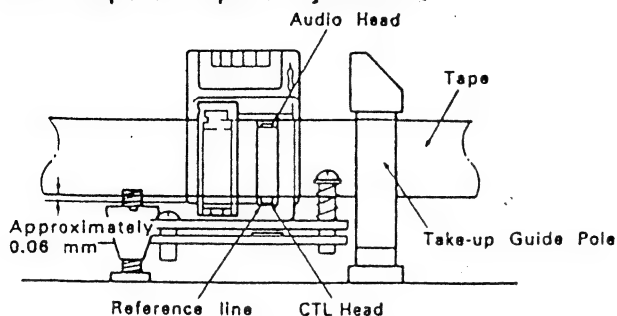

Fig.7 Audio/CTL Head adjustment
- Turn screw ③ (Fig.7-A) and adjust for smooth transport at the take-up guide pole.